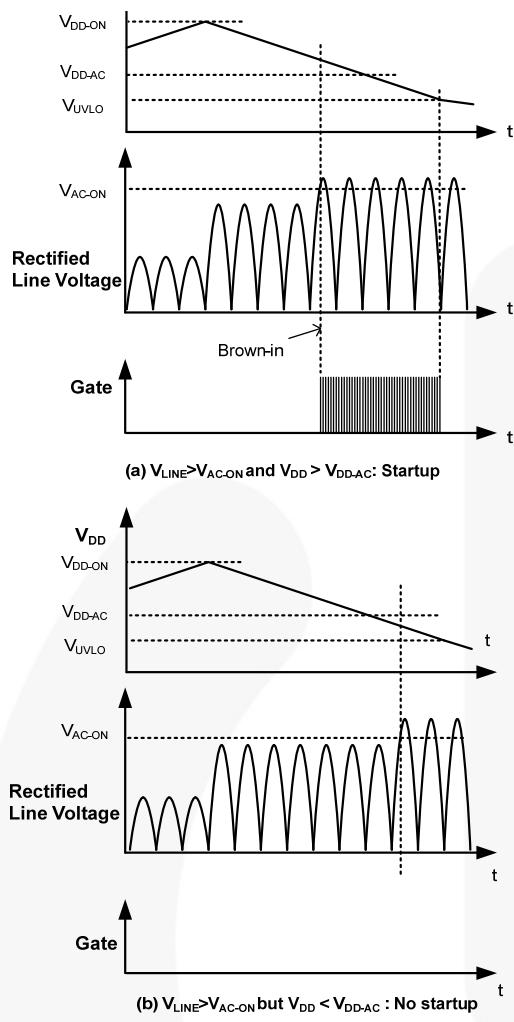

Figure 34. Timing Diagram for Brown-in Function
8. V_{DD} must be larger than V_{DD-AC} to start, even though the sensed line voltage satisfies Equation (2), as shown in Figure 34.